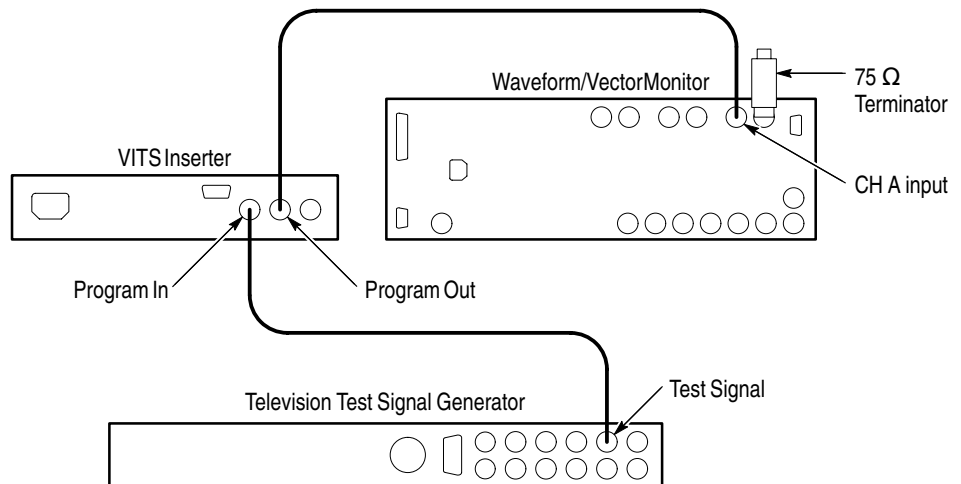

Figure 6-5: Equipment for setting gain adjustments
5. Remove the female-to-female BNC adapter and connect the VITS inserter to the generator and monitor as shown in Figure 6-5.